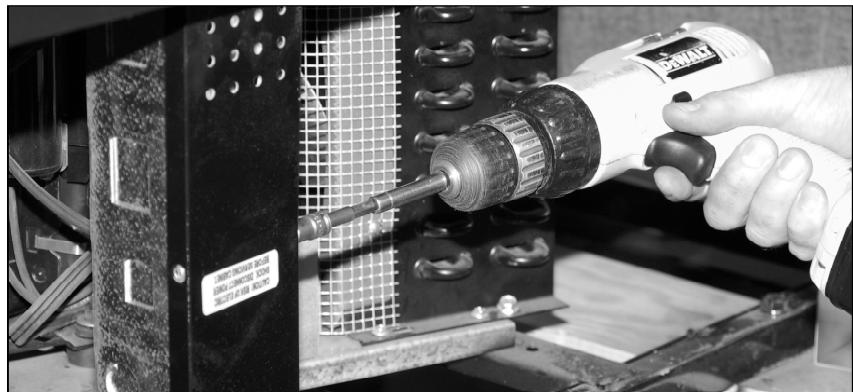

Figure 2. Removing ballast box cover
- A. Remove ballast box cover by backing out two hex head screws. (See Figure 2).